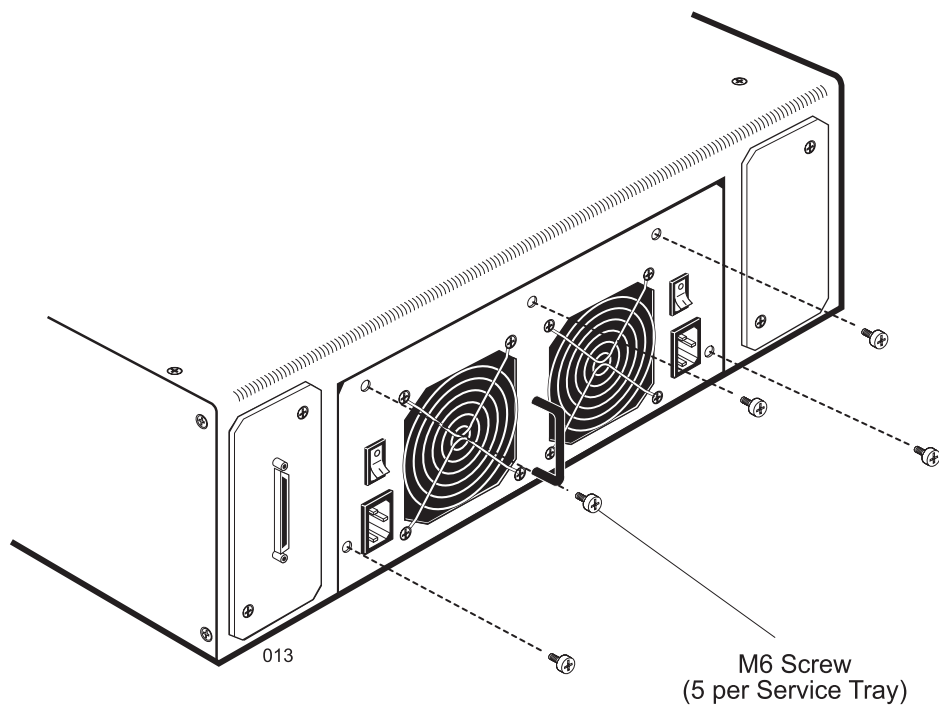

Figure 16: Service Tray Screw Location and Removal
3. Remove the five (5) M6 screws that secure the service tray to the NetMEDIA chassis (Figure 16).